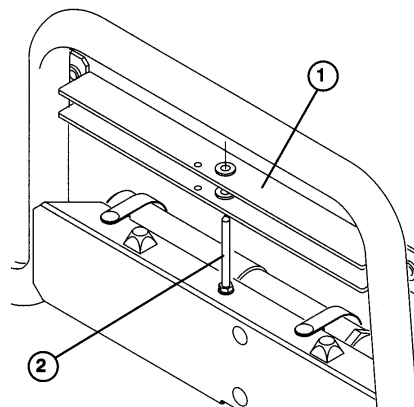

Figure 23
2. Remove the bed support from storage stud on top of the back rest support channel on the Workman (Fig. 23).